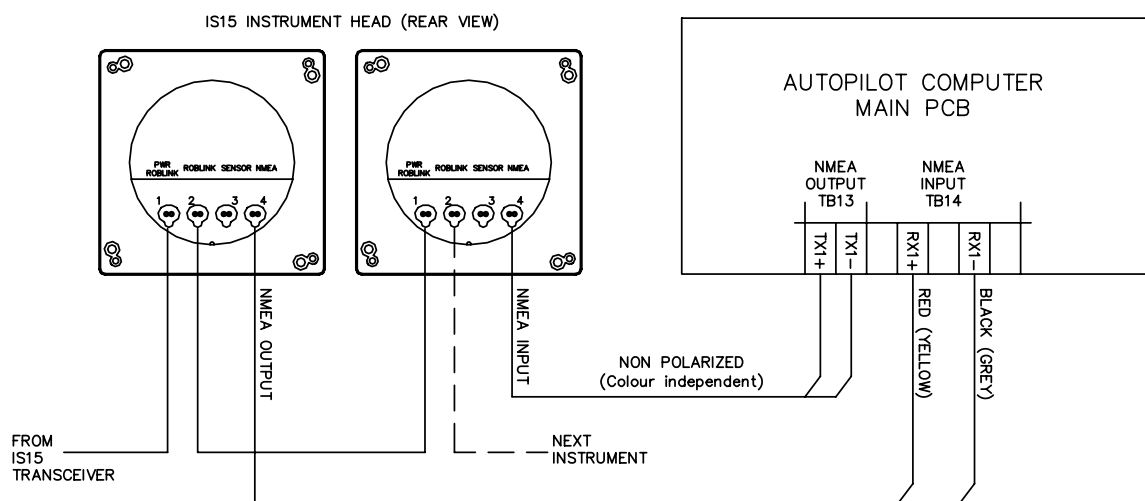

Figure 3-26 IS15 Instruments / Autopilot computer connection
The connection is made by a Roblink cable from the instrument NMEA socket (4) to the Autopilot Computer Main Board, Terminal RX1+ and RX1-. See Figure 3-26.
The connection is made by a Roblink cable from the Autopilot Computer Main Board, terminal TX1+ and TX1- to the instrument NMEA socket (4). See Figure 3-26.